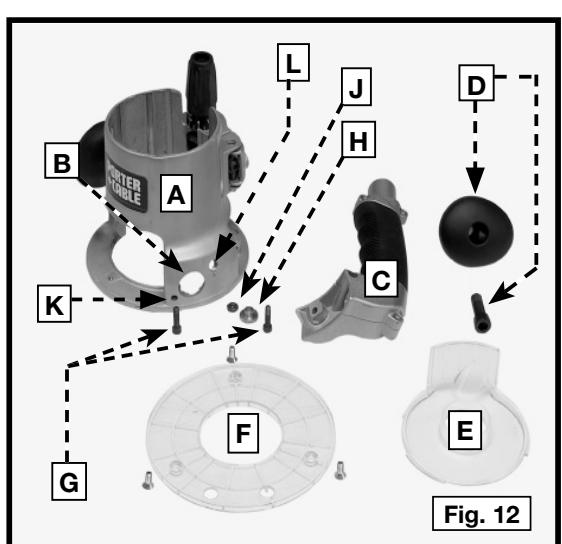
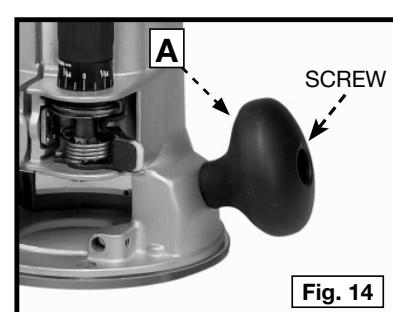

Fig. 12
Fig. 14
GRIPVAC™ PARTS (FIG. 12)
1. Use a 5/16" hex wrench to loosen the screw in the handle (A) Fig. 14. Remove the handle from the router base. Store the handle and screw for possible later use.
2. Remove the plastic plug from the dust port (B) Fig. 12.
5. Insert a hex screw (G) Fig. 12 through the handle into the hole (L). From inside the base housing, place a shoulder washer (H) and a hex nut (J) on the screw. Tighten the nut loosely.
6. From inside the base housing, insert the second screw (G) into the hole (K) and screw it into the threaded hole of the GripVac™ handle.
7. Turn the router base upside down and place the dust deflector (E) Figs. 14 and 18 into the bottom of the router base by aligning the three plastic tabs on the deflector with the three recesses in the base. Align the extended part of the deflector (B) Fig. 16 with the GripVac™ handle. The deflector will be flush with bottom of router base.